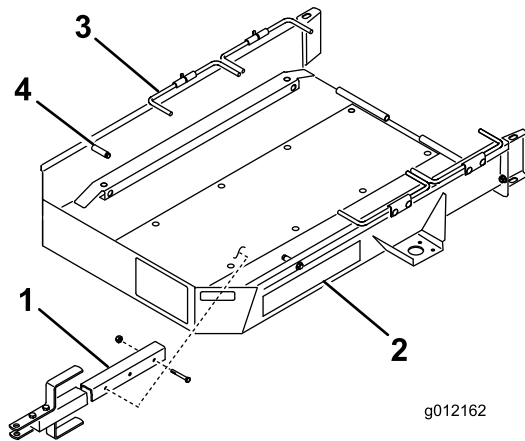

Figure 1
1. Mount the tongue assembly to the mounting bracket on the underside of the trailer bed with 2 bolts (3/8 x 2-3/4 inches), 2 spacers and 2 locknuts. For most applications, use the front set of mounting holes in the tongue and bracket (Figure 1).
3. Remove the baskets from the machine, disengage the reel drive, and move the throttle to the slowest position. **Slowly** drive the machine onto the trailer until the transport wheels contact the trailer stops (Figure 1).
5. Pivot the first set of wheel rods downward behind the transport wheels (Figure 1).